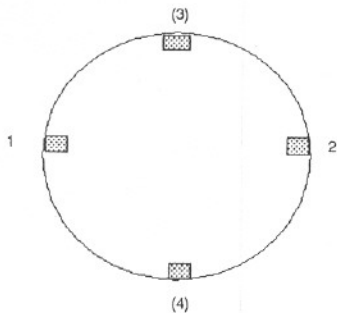

Figure 2
- Depress the **MEASURING BUTTON** and align the visible light beam with the applied target. Verify that the **MONITOR INDICATOR** lights when the target passes through the light beam. Release the **MEASURING BUTTON** when the reading stabilizes (about 2 seconds). If the test RPM is less than 50 RPM, it is suggested to attach more "REFLECTING MARKS" averagely (Fig. 2). Then divide the reading shown by the number of "REFLECTING MARKS" to obtain the real RPM with greater resolution & stability on display reading.